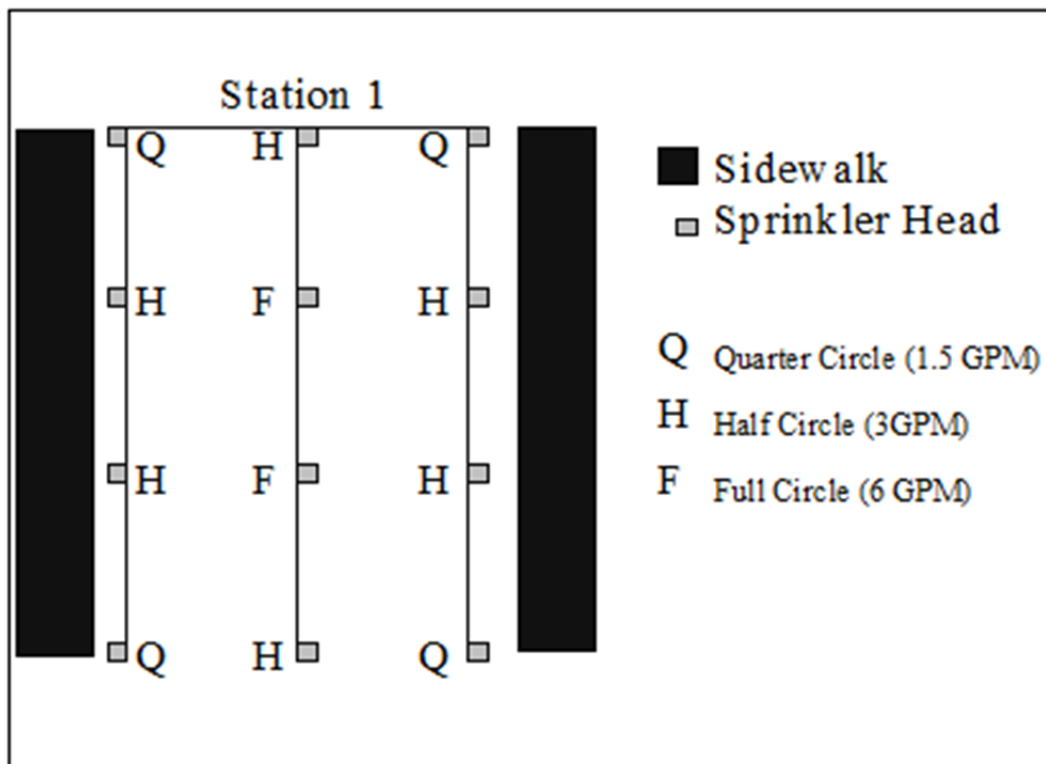

Figure 2. Sprinkler layout and GPM rating.
Step 1: Determine the Flow Rate of Each Station - Sprinklers are rated in gallons per minute (or GPM) and vary by sprinkler type (rotor, spray, impact), nozzles size, and pressure. Ratings for sprinklers are provided in manufacturers' specifications catalogs. In the area/flow method, the total flow into a station is determined by summing the flow rates of each individual sprinkler head. For example, assume that an irrigation system consists of one station, shown in Figure 2.